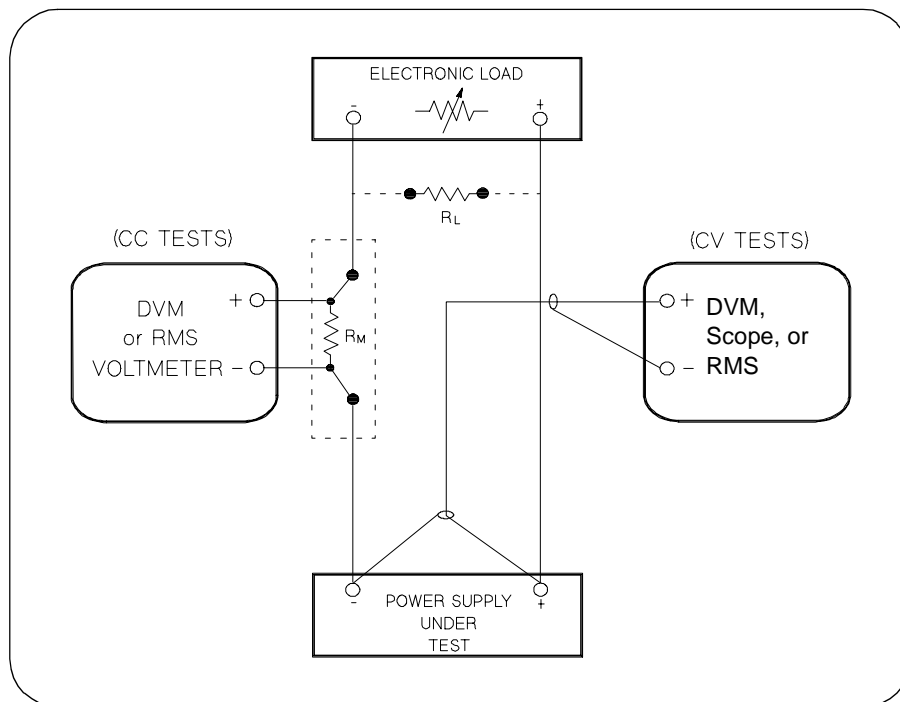

Figure A-1 Performance Verification Test Setup
Most tests are performed at the front terminals as shown in Figure A-1. Measure the dc voltage directly at the (+) and (-) terminals on the front panel.
To eliminate output current measurement error caused by the voltage drops in the leads and connections, connect the current monitoring resistor between the (-) output terminal and the load as a four-terminal device. Connect the current-monitoring leads inside the load-lead connections directly at the monitoring points on the resistor element (see R_M in Figure A-1).
- 1 Turn off the power supply and connect a digital voltmeter between the (+) and (-) terminals of the output to be tested as shown in Figure A-1.
- 1 Turn off the power supply and connect a digital voltmeter between the (+) and (-) terminals of the output as shown in Figure A-1.
- 6 Adjust the transformer to high line voltage (127 Vac for nominal 115 Vac, 110 Vac for nominal 100 Vac, or 253 Vac for nominal 230 Vac). Record the voltage reading on the digital voltmeter. The difference between the digital voltmeter readings in steps (5) and (6) is the CV line regulation. The difference of the readings should be within the limit of (5 mV)* or (9 mV)**.
- 7 Repeat steps (1) through (6) for the other output.
- 1** Turn off the power supply and connect the output to be tested as shown in Figure A-1 to an oscilloscope (ac coupled) between (+) and (-) terminals. Set the oscilloscope to AC mode and bandwidth limit to 20 MHz. Connect a resistive load (13.5Ω)[‡] to the terminal at (B) as shown above.
- 6** Repeat steps (1) through (5) for the other output.
- 1 Turn off the power supply and connect the output to be tested as shown in Figure A-1 with an oscilloscope. Operate the electronic load in constant current mode.